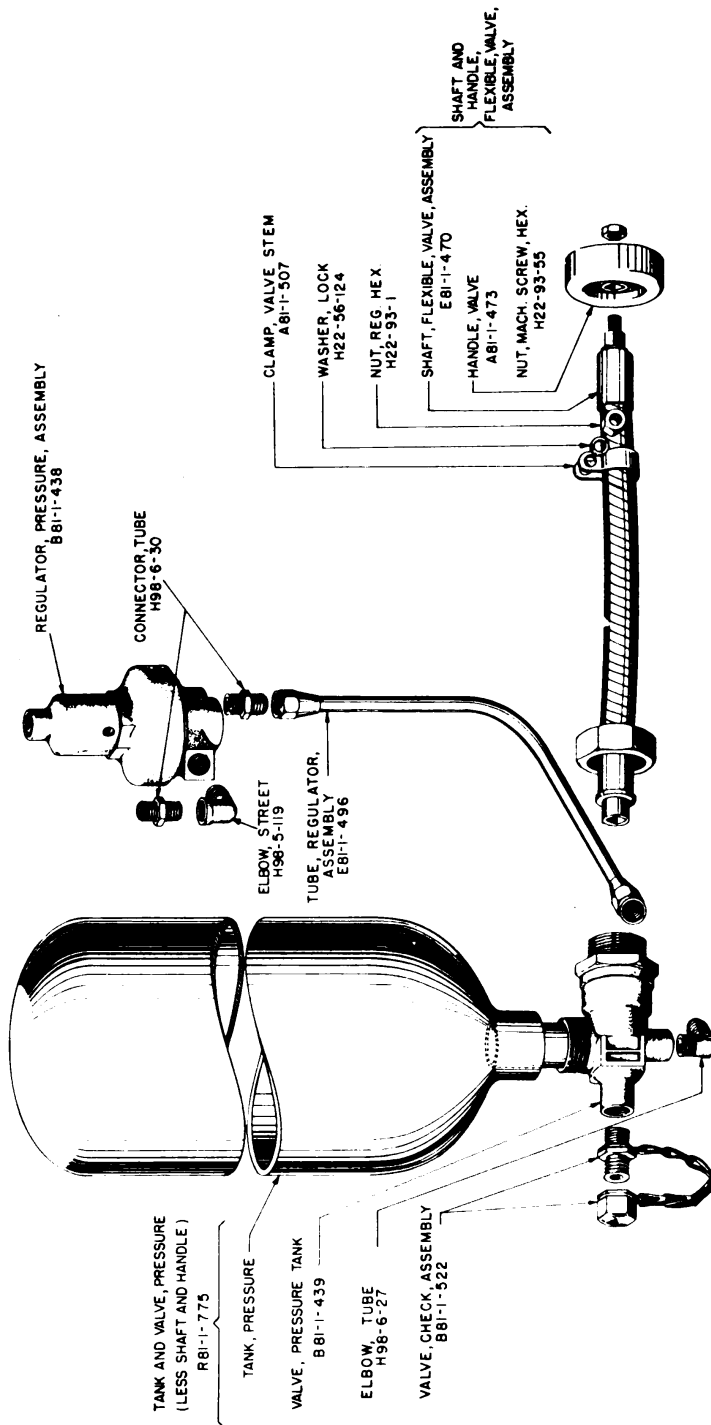

Fig 33. Pressure system disassembled, showing nomenclature and Chemical Warfare Service stock numbers for requisitioning spare parts.
a. Description and functioning. The pressure tank and valve assembly (Fig 33) includes:
(2) Pressure-tank valve. (Figs 33 and 34) This valve is screwed into the bottom of the pressure tank. The valve stem slides into the valve end of the valve flexible shaft. When opened by means of the valve handle and valve flexible shaft, the valve permits passage of compressed air or nitrogen through tubes and the pressure regulator to the fuel tanks. The valve is of the quick-opening, packless, diaphragm type.
(3) Pressure-valve handle and valve flexible shaft. (Figs 33 and 34) The pressure-valve handle is held by a small nut on the end of the valve flexible shaft, which in turn is connected to the pressure-tank valve by means of the valve stem and a large hex nut. The handle and shaft extend to the right of the tank group, enabling the firer to open and close the valve without assistance when carrying the weapon. The handle slips over the end of the shaft and is held to it by a nut. The shaft is held to one of the fuel tanks by a clamp, nut, and bolt welded to the tank.
(4) Check valve. (Figs 33 through 35) The check valve has the same function as the valve on a vehicular tire tube, but it is much heavier in construction and different in design because the pressure in the flame thrower is 50 times greater than that in an automobile tire tube. Connected by threads to the pressure valve, the check valve permits compressed air or nitrogen to enter the pressure tank during charging (Pars 31 and 32) but prevents its escape when the outside source of pressure is removed. The cap is removed from the check valve only for charging or testing.
b. Removal. (Fig 33) To prevent damage to threads, leaks, and loss of pressure and range, remove pressure tank and valve assembly only when necessary.
(1) Release of pressure. Be sure all pressure has been released from the pressure system before disassembling or removing any part or assembly of the pressure system. To release pressure, operate fuel valve (Par 26) and hold open until
c. Installation. (Figs 33 and 39) To install:
- (1) Insert pressure tank (with pressure-tank valve and check valve mounted on the tank) through the pressure-tank clamp. Be sure to aline the regulator tube, elbow, and pressure-tank valve threads carefully so that they cannot be damaged when connecting.
- (2) Close the pressure-tank clamp.
- (3) Start the threaded connections by hand to be sure they are well alined. Do not force. Use wrench for final tightening, but do not apply great torque to the wrench.
- (4) Insert the valve flexible shaft through small clamp into the pressure-tank valve. Using wrench, tighten the large hex nut located between shaft and valve.
- (5) Tighten the clamp on the valve flexible shaft.
- (6) Place pressure-valve handle on threaded end of the shaft. Place nut on threaded end and tighten with adjustable-end wrench.
(2) Keep all threaded connections tightened. If a leak is suspected at any threaded connection, follow procedure in Paragraph 53 d.
a. Description and functioning. The regulator automatically reduces the variable pressure of air or nitrogen in the pressure tank to a constant operating pressure of approximately 350 pounds per square inch in the fuel tanks. The regulator is located at a protected position in the tank group of the M2-2 portable flame thrower, where it is not readily subject to tampering or damage from the outside. The regulator tube with fittings connects the pressure-tank valve and pressure regulator. (Fig 33) Its outlet is connected to the fuel tanks by the diffusion-pipe assembly. (Par 68 a) Either of two interchangeable types of regulators is furnished: the spring type (Figs 33, 36, and 37), and the dome type (Fig 38).
(1) Remove carrier (Par 71 b), if necessary.
(2) Using wrench, unscrew the flared tube nuts and other fittings.
(3) Lift out the pressure regulator.